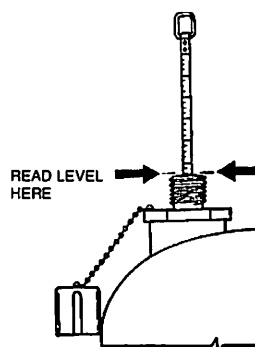

FIGURE 2
3. Read the measurement on the tape directly at the top of the plastic sleeve in the measuring device housing (see Figure 2). Record this measurement and note the temperature of the tank module.